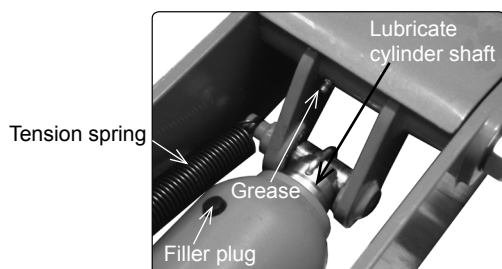

fig.4
- 6.2. Keep the jack clean and lubricate all moving parts on a regular basis as in fig.3, fig.4 and fig.5. Smear grease into castor ball journals.
- 6.6. To check the jack oil level, fully lower the jack. Remove the cover and jack oil filler plug (fig.4). If the jack oil level is low, fill as required. **DO NOT** over fill. The correct level is just below the bottom of the plug.